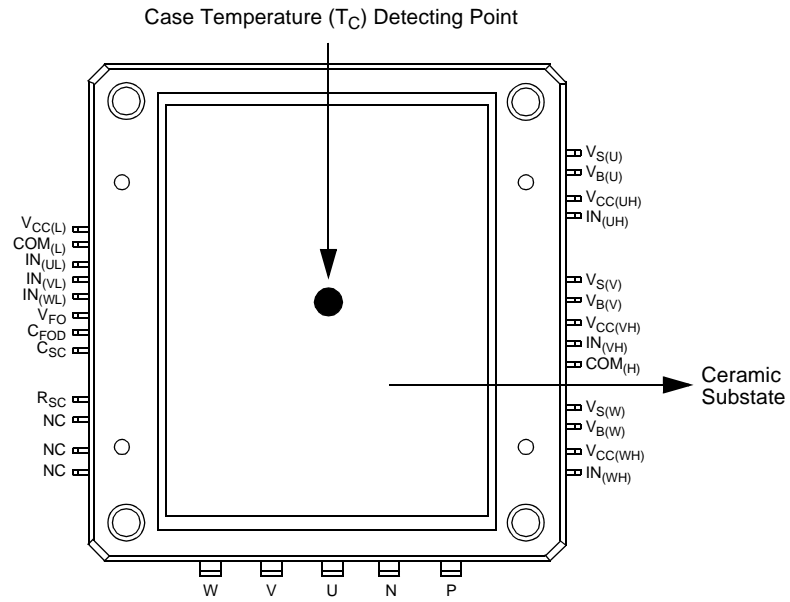

Fig. 4. T_C Measurement Point
2. For the measurement point of case temperature (T_c), please refer to Fig. 4.